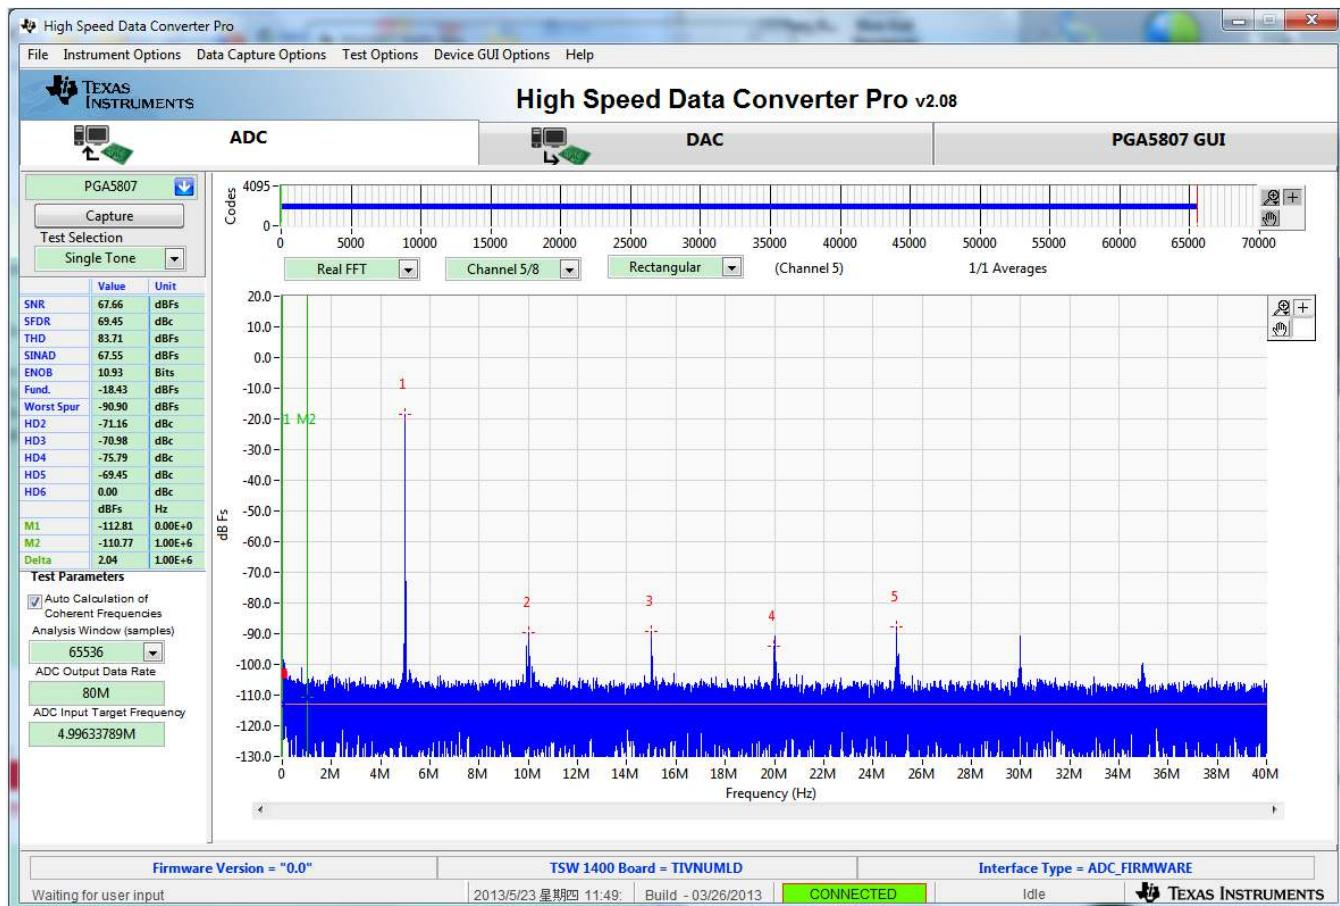

Figure 49. PGA5807+ADS5296 Gain Test Capture 3
- Click on the *ADC* tab and press the *Capture* button to see the result shown in Figure 49.